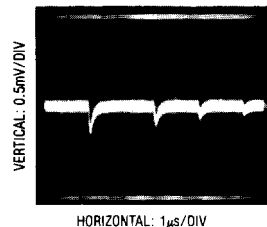

Figure 15. Adequate Reference Settling
2. Transients on the reference inputs caused by the capacitive switching currents must settle completely during each bit test (each 4 ACLK cycles). Figures 15 and 16 show examples of both adequate and poor settling. Using a slower ACLK will allow more time for the reference to settle. However, even at the maximum ACLK rate of 2MHz most references and op amps can be made to settle within the 2 μs bit time.